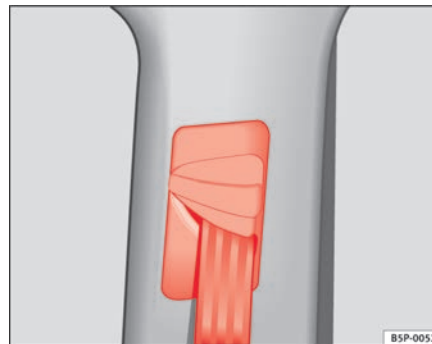

Fig. 17 Location of the belt height adjuster
- Press the upper part of the shoulder belt guide and hold it in this position ⇒ page 26, fig. 17.